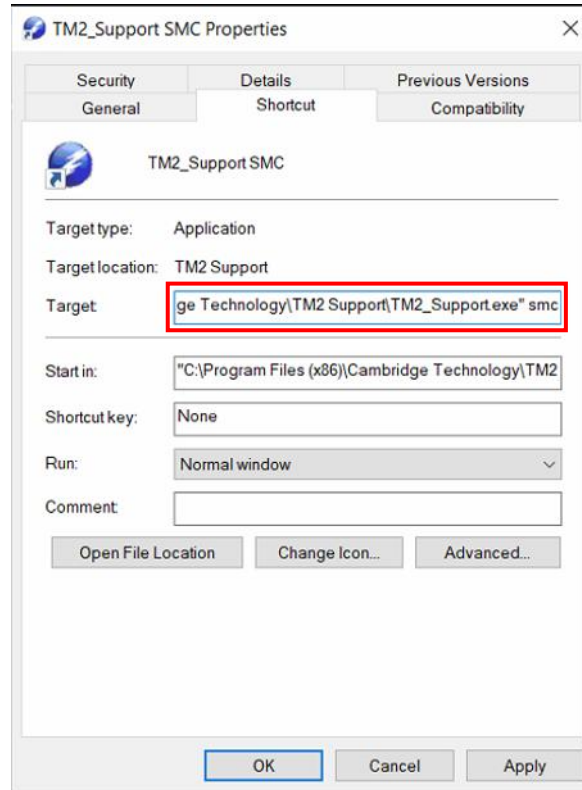

Figure 34: Editing the TM2\_Support SMC shortcut properties
8. In the *Target* field add the text `smc` at the end of the string as shown in Figure 34 on page 81.